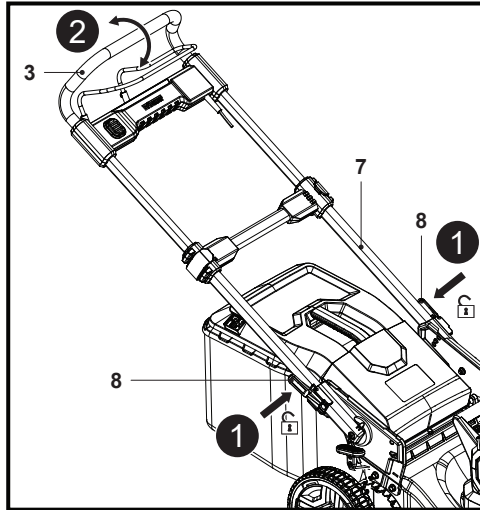

Fig. 10
1. Squeeze and disengage the two lock levers (8) on both sides of the lower handle bar (7) (Fig.10, step 1).
2. Hold the two lock levers (8) in position, then grasp the grip handle (3) and swing the handle assembly gently (Fig. 10, step 2) until the lock pin (8a) of the lock lever (8) automatically engaged in one of the other two holes (9a) of the handle support (9).